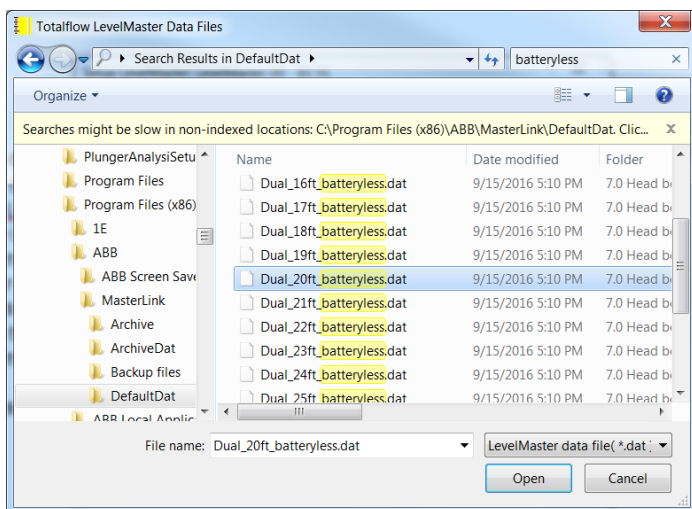

Figure 6: Locating the correct configuration file
4. Locate the file for the correct length of sensor and click **Open**. For example, for a 20 foot sensor, select the "Dual_20ft_batteryless.dat" file (Figure 6).